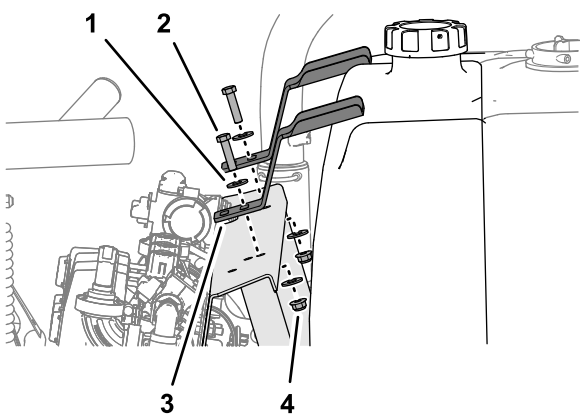

Figure 4
- Remove the 2 bolts, 4 washers, and 2 flange locknuts that secure the 2 hold-down brackets for the rinse tank to the valve mount, and remove the hold-down brackets (**Figure 4**).